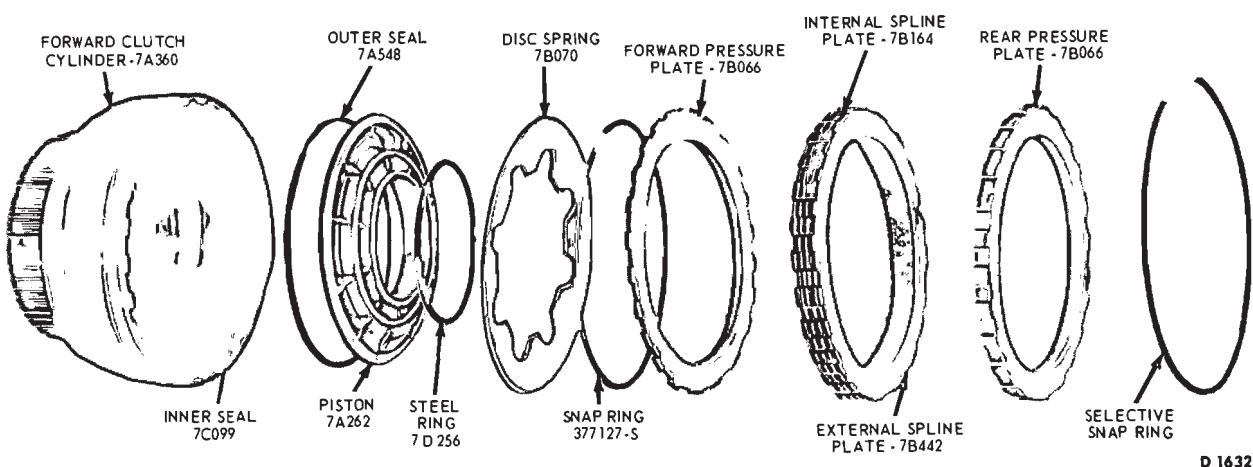

FIG. 52—Forward Clutch Disassembled
2. Remove the rear pressure plate, the drive and driven plates and the forward pressure plate from the clutch hub (Fig. 52).
5. Remove the seal from the piston and the seal from the clutch hub (Fig. 52).
4. Install the forward pressure plate with the flat side up and the beveled side downward. Dip the clutch plates in clean transmission fluid. Install first a composition driven plate and a steel drive plate (Fig. 52). Install the remaining plates in this sequence. Refer to the Specification Section for the number of plates required. The last plate installed will be the rear pressure plate. Install the snap ring and make certain that it seats fully in the groove. When new composition clutch plates are used, soak the plates in automatic transmission fluid for 15 minutes before they are assembled.